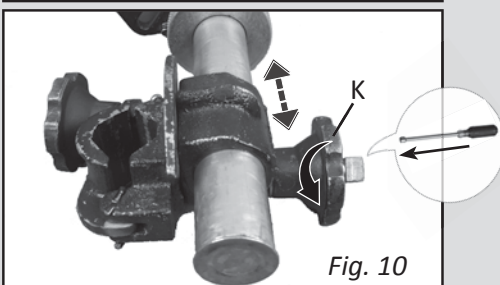

Fig. 10
- C. Position adjustment. (K, Fig. 10)
C-1. Loosen position adjustment knob. (K, Fig. 10)
C-3. Tighten position adjustment knob. (K, Fig. 10)